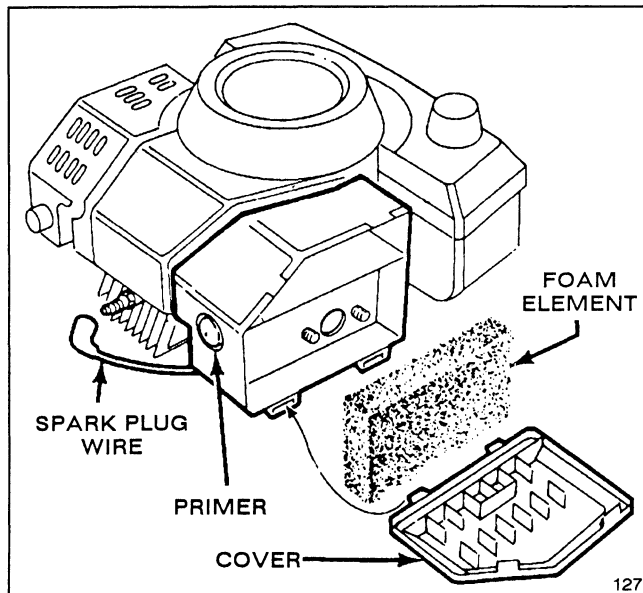
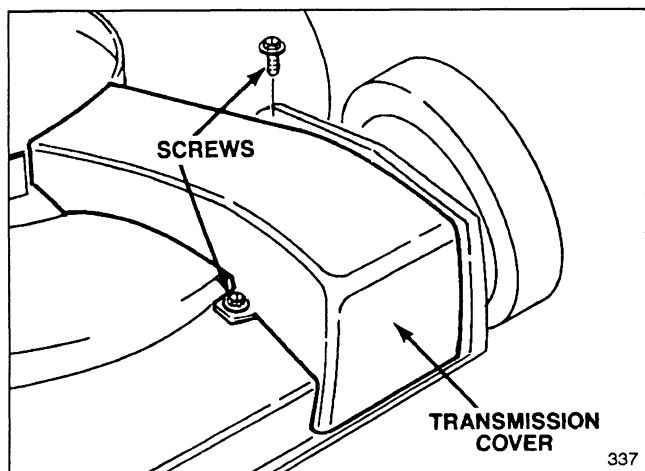

Figure 9
Figure 15
2. STARTING (Fig. 5 & 6)—Push spark plug wire onto spark plug (Fig. 9). Move wheel drive control to DISENGAGE (model 16785 only) and throttle to CHOKE. Cover hole in center of primer with thumb and push once (Fig. 9). Hold control bar against handle. Pull fingertip starter out until positive engagement results; then pull vigorously to start the engine. Regulate throttle as desired when engine starts.
1. Stop the engine and pull the wire off the spark plug (Fig. 9).
SERVICING AIR CLEANER (Fig. 9)
1. Stop engine and pull wire off spark plug (Fig. 9).
2. Clean around spark plug and remove plug from cylinder head (Fig. 9).
1. Stop engine and pull wire off spark plug (Fig. 9). Remove two screws and lift off transmission cover (Fig. 15).
2. Remove transmission cover (Fig. 15).